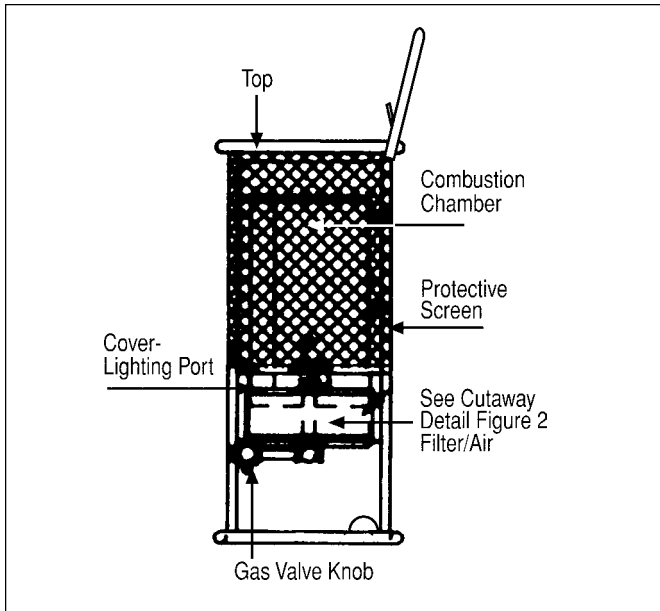
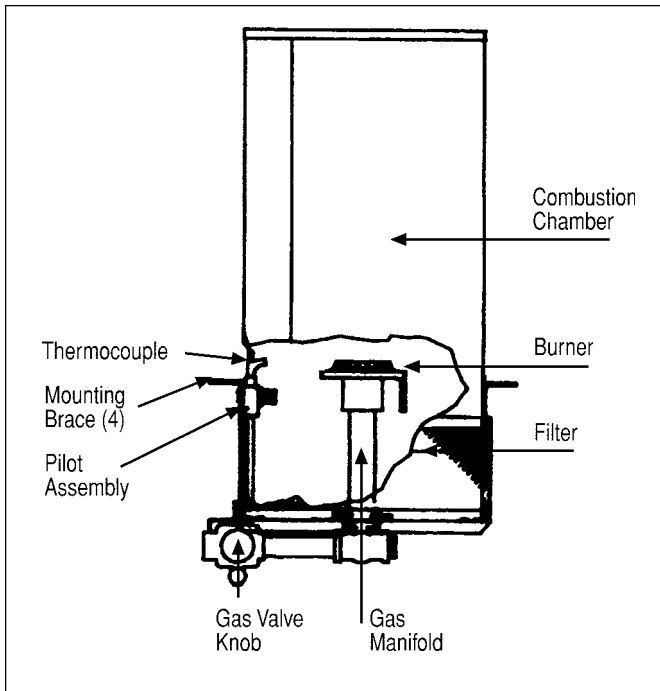

Figure 1
Figure 2
- 3 Turn the gas valve knob clockwise to the "OFF" position. See Fig. 1 and Fig. 2 for location of appliance parts.
- 6 Turn the gas valve knob counter-clockwise to the "PILOT" position (see Fig. 1).
- 7b To light the pilot, move the lighting hole cover aside (see Fig. 1) and place a lighted match into the hole. Depress the gas valve knob and hold while lighting and observing the pilot burner. Ensure that the pilot burner ignites from the match. Allow the pilot to burn approximately 30 seconds before releasing the gas
8. Turn the gas valve knob counter-clockwise to the "ON" position (see Fig. 1). The burner will light. **DO NOT operate the heater in any other than the full "ON" position.**
9. **IMPORTANT: DO NOT attempt to adjust the main burner input using the main gas supply valve**, for this may cause the pilot and thermocouple to shut down the burner (Fig. 2).